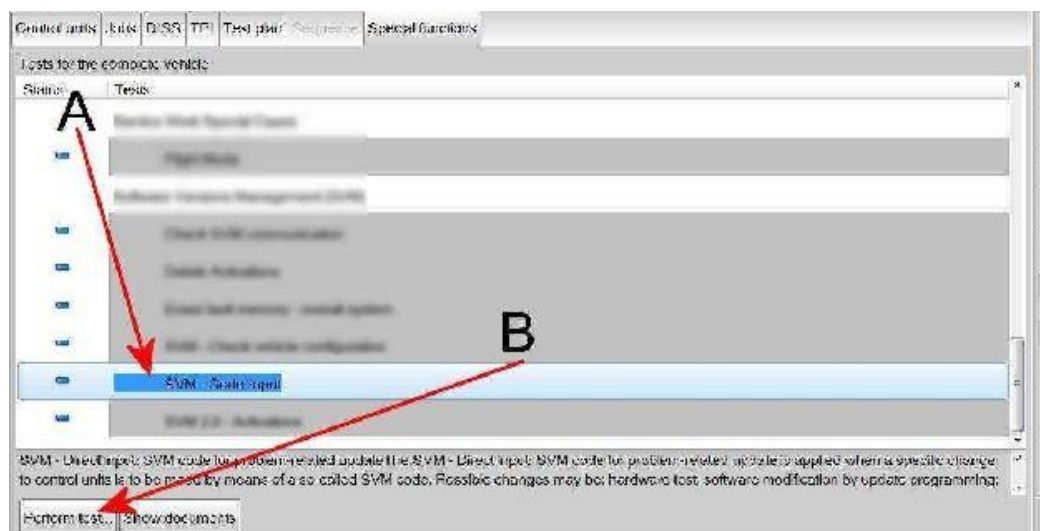

Figure 5
9. Referring to Figure 5 - Within the Special functions tab - Select SVM - Code Input (Point A)